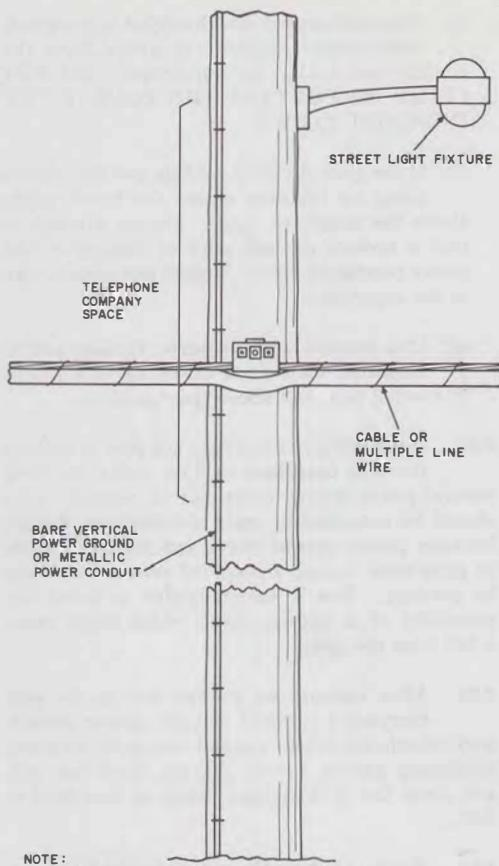

Fig. 8—Street Light Fixture—Conditions Requiring Use of B-Voltage Tester
6.04 When a pole carries multiple line wire, telephone cable, or a bare vertical power ground wire and a street light fixture (Fig. 8), plan to make a voltage test in accordance with Part 8.